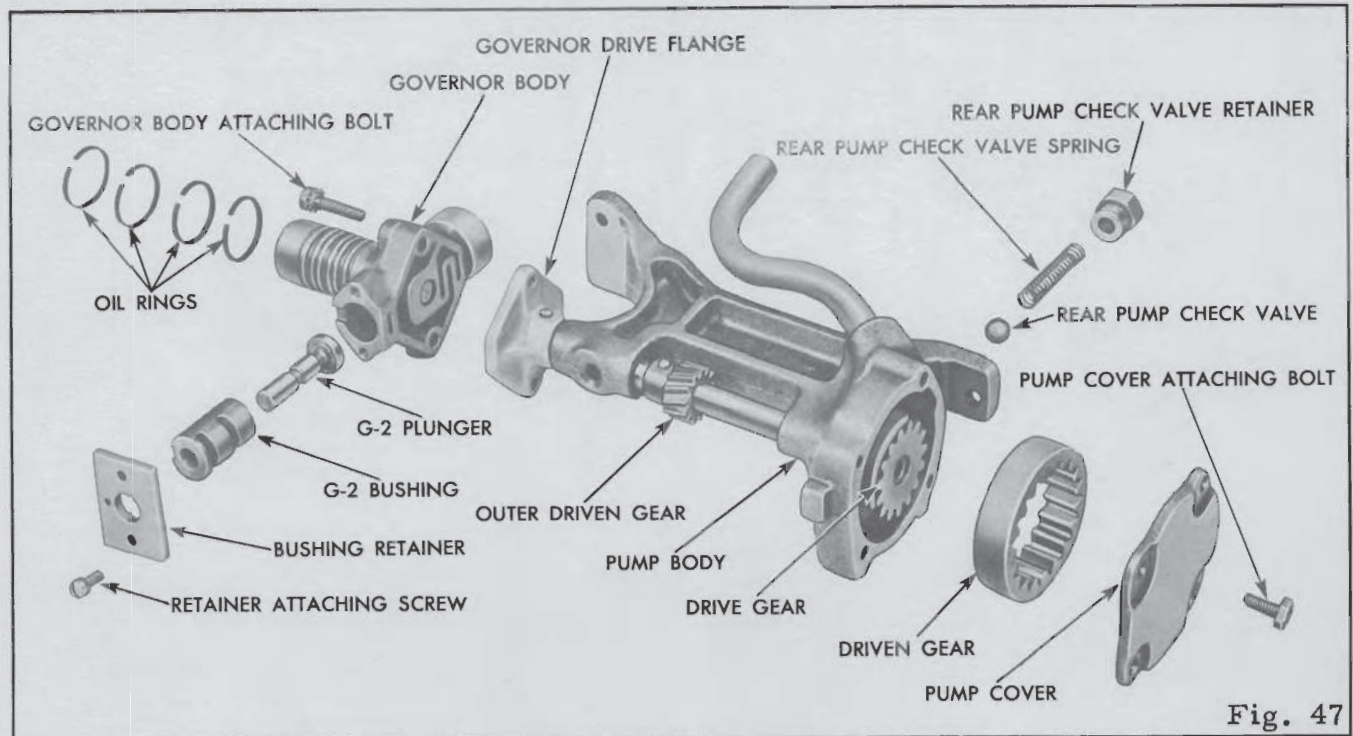

Fig. 47
- ⊗ Using a 7/16" socket, remove the four bolts that hold the rear pump cover to the pump body. Remove the cover (Fig. 47).